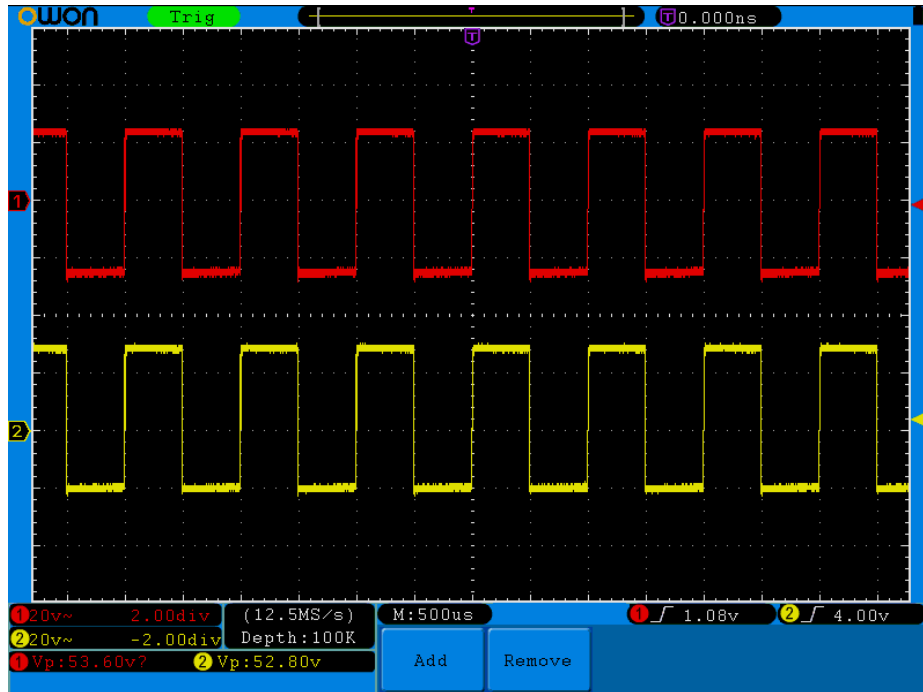

Fig.6-2 Waveform of Gain Measurement
- (1) Push down the **Autoset** button and the oscilloscope will automatically adjust the waveforms of the two channels into the proper display state.
- (2) Push down the **Measure** button to show the Measure menu.
- (3) Press the **H1** button.
- (4) Press the **F2** button and choose **CH1**.
- (5) Press the **F1** button and turn the **M** knob to choose **PK-PK**.
- (6) Press the **F2** button and choose **CH2**.
- (7) Press the **F1** button again and turn the **M** knob to choose **PK-PK**.
- (8) Read the peak-to-peak voltages of Channel 1 and Channel 2 from the bottom left of the screen (See Fig.6-2).
- (9) Calculate the amplifier gain with the following formulas.